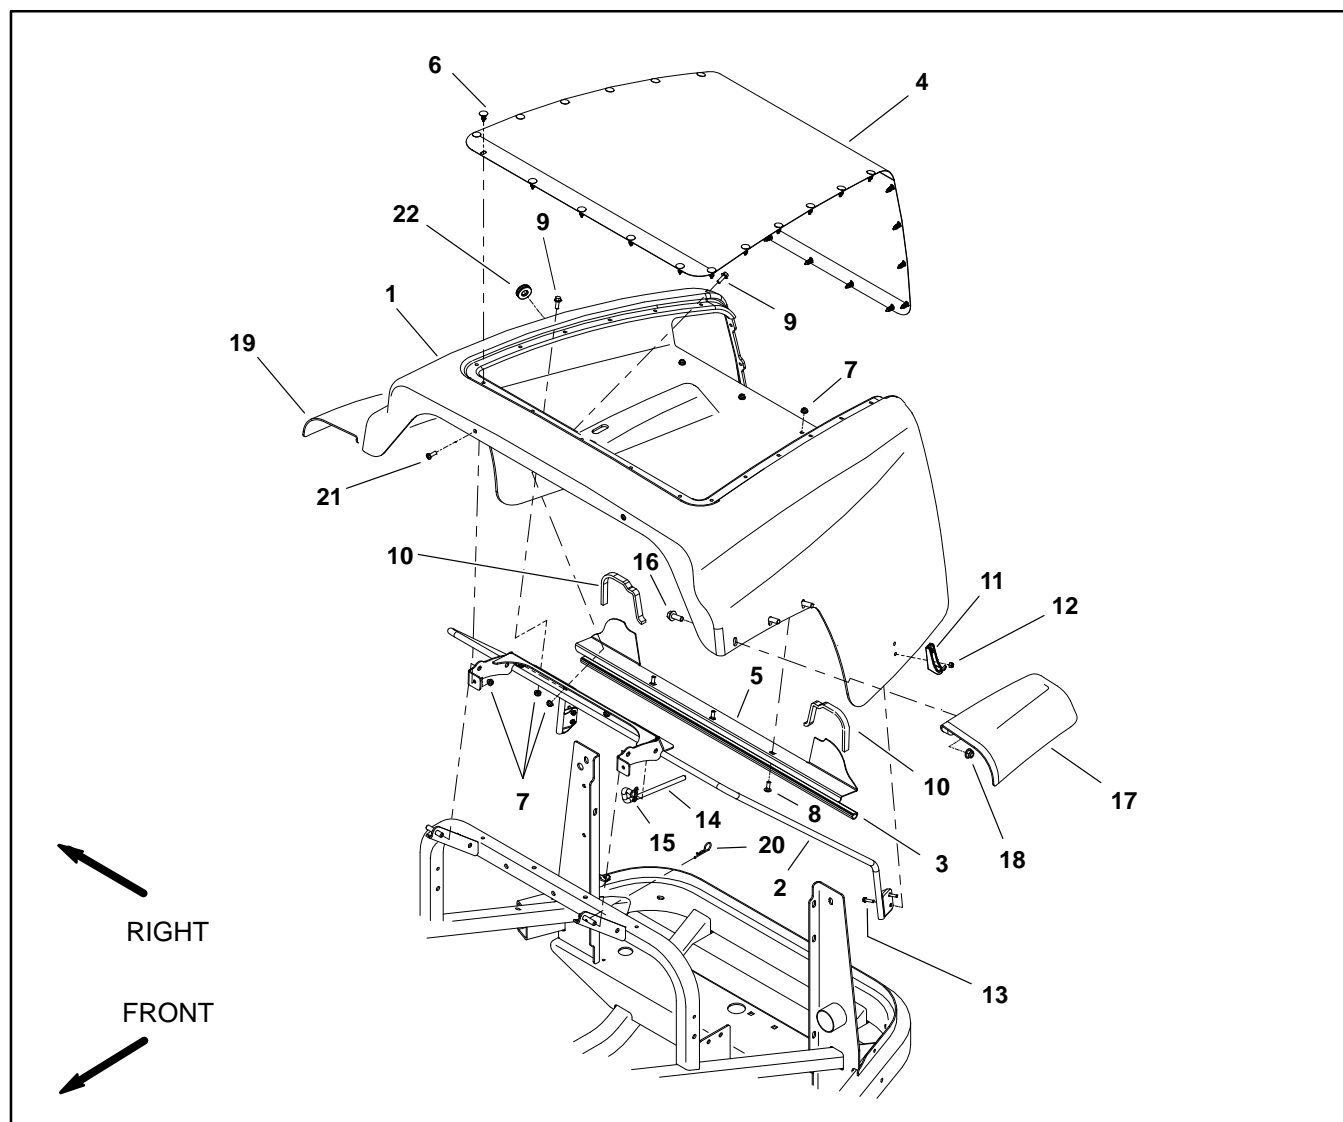

Figure 61
Removal (Fig. 61)
3. Remove hair pin (item 20) from frame rod to allow hood removal.
6. If necessary, remove hood components using Figure 61 as a guide.
Installation (Fig. 61)
1. Install all removed hood components using Figure 61 as a guide. If intake screen was removed from hood, make sure that hood seal (item 5) and hood mount (item 2) are attached to hood before installing screen. Secure screen to hood with plugs.
4. Install hair pin (item 20) to retain hood.